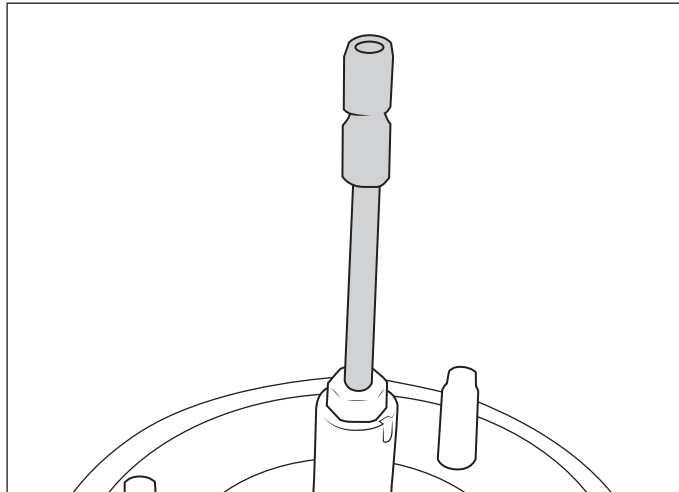

Figure 13
- C. Install the supplied air line extension to the strut fitting and tighten nut to 5N-m (44 in-lbs) (fig. 13).